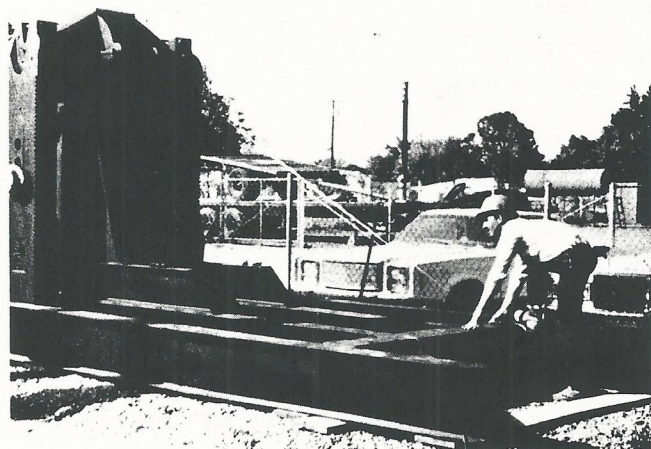

Figure 5 — Aligning gearbox to base.
4. Loosen bolts and adjust gearbox on pedestal so that distance between main shaft and holes on base for front legs of samson post are equal. Use measuring tape (Fig. 5).